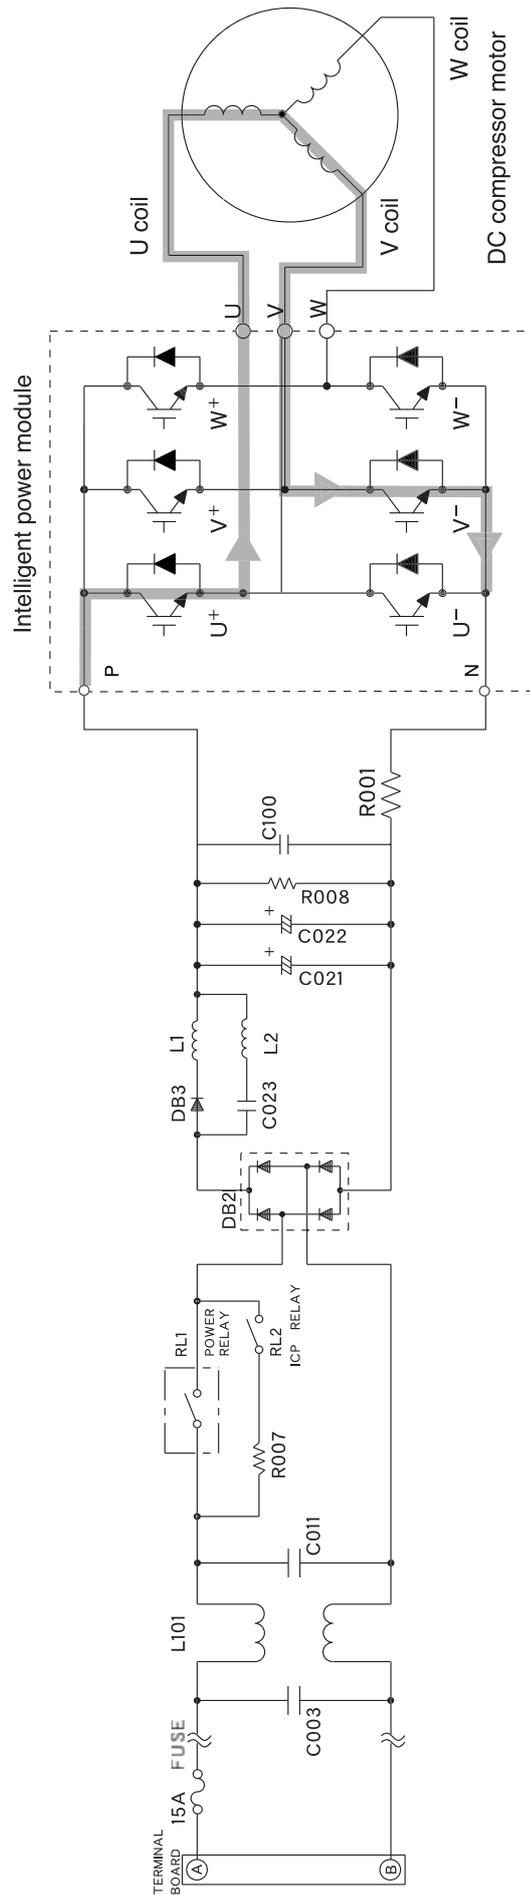
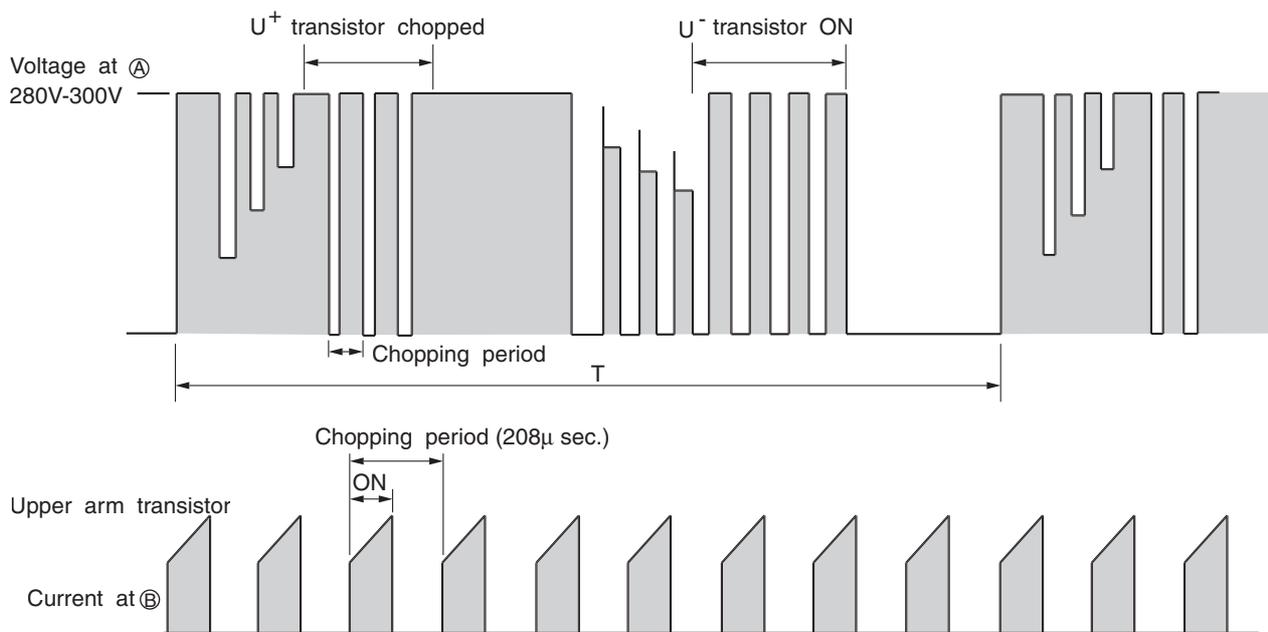

Fig. 3-1 System power module circuit (U^+ is ON, V^- is ON)
Fig. 3-3 Voltage waveform at each point
Fig. 3-1 shows peripheral circuits of intelligent power module (IPM).
At point ⑤: U⁺ is ON, V⁻ is ON (circuit in Fig. 3-1)
Fig. 3-3 shows voltage waveform at each point shown in Figs. 3-1 and 3-4. First half of upper arm is chopper, second half is ON, and first half of lower arm is chopper, second half is ON.
- (1) When U⁺ transistor is ON: U⁺ transistor → U coil → V coil → V⁻ transistor → DC current detection resistor → Point ⑥ (Fig. 3-3)
Since current flows at point ② only when U⁺ transistor and V⁻ transistor are ON, the current waveform at point ② becomes intermittent waveform as shown in Fig. 3-3. Since current at point ② is approximately proportional to the input current of the air conditioner, input current is controlled by using DC current (I_d) detection resistor.